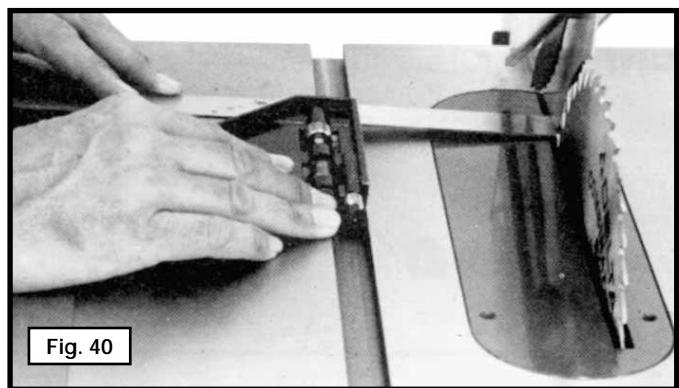

Fig. 40
2. Rotate the saw blade so that the same tooth you used in **STEP 1** is in the rear position (Fig. 40). Both the front and rear measurements should be the same.